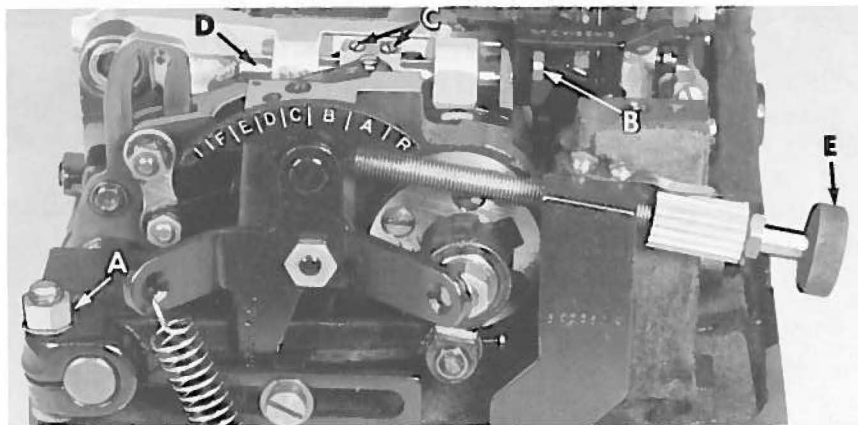

Fig. 9
The main feed dog should have equal clearance on all sides of feed slots in the throat plate at maximum feed travel. To adjust the main feed dog across-the-line-of-feed, loosen screws (C, Fig. 7) and position feed dog as required. Retighten screws (C). To adjust main feed dog in-line-of-feed, loosen nut (A, Fig. 9) and move feed bar as required. Retighten nut.
To raise or lower the differential feed dog, loosen screw (B, Fig. 9) and set the feed dog at the required height. Retighten screw.
Loosen set screws (C, Fig. 9) and move the differential feed bar (D) forward or backward as required. The loosening of set screws (C) will also allow the differential feed bar (D) to be rotated, so the differential feed dog can be aligned parallel with the top surface of the throat plate, across-the-line-of-feed. Tighten screws securely.
These machines have an intermittent differential feed which is activated only when the treadle is used. The differential feed ratio is set by turning thumbscrew (E, Fig. 9). Turning it counterclockwise increases the amount of differential feed and turning it clockwise decreases the amount of differential feed.